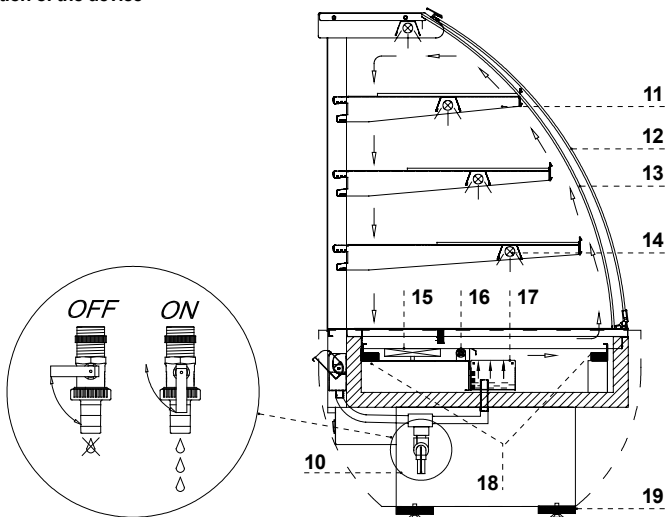

Fig.2 Construction of the device
- Check whether the water outflow ball valve is closed Fig.2/10 (p.9)